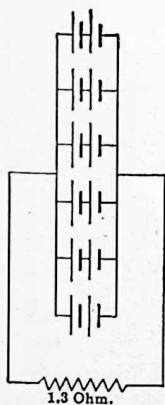

Fig. 182.
(5) Six parallel rows of 2 cells in series: Fig. 182.